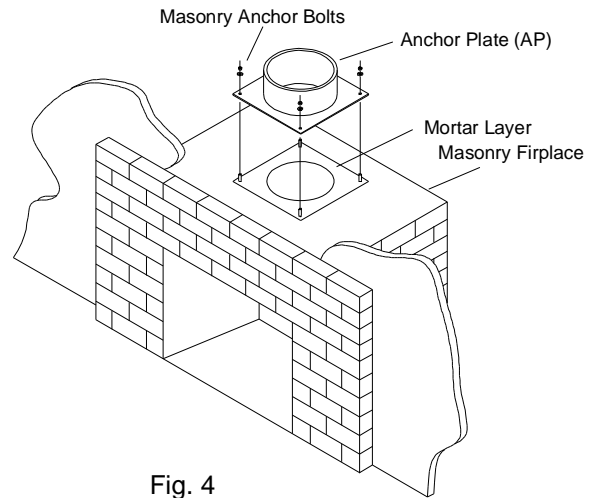

Fig. 4
3. While the mortar is still damp, place and level the Anchor Plate over the extended studs. Secure, using a washer and nut for each bolt. (See Fig. 4)
5. Place a section of chimney onto the Anchor Plate and secure to Anchor Plate with 4 #8 x 1/2" sheet metal screws. Up to 35' of chimney may be stacked on the Anchor Plate. Use an Interior Resupport (IR) for every additional 16' of height needed.